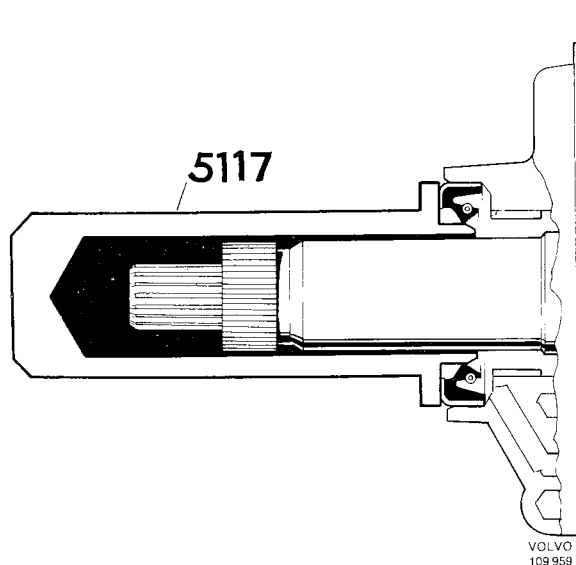

Fig. 4-110. Installation of sealing ring in pump
19. Fit the sealing ring in the pump housing with the sleeve drift 5117, see Fig. 4-110.